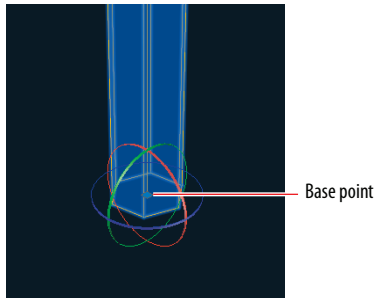

FIGURE 17.23 3D rotate gizmo displaying three colored rings representing the x-, y-, and z-axes
6. Select the ribbon's Home tab, and click the 3D Rotate tool in the Modify panel. Select the mast, and press Enter. Click the lower endpoint of the vertical line, which is at the center of the mast, to act as the base point. A 3D rotate gizmo appears (see Figure 17.23).
8. Click the 3D Rotate tool in the Modify panel again; then select the mast and press Enter. Click the same base point shown in Figure 17.23, and click the green axis ring to select the y-axis. Type **4**, and press Enter.